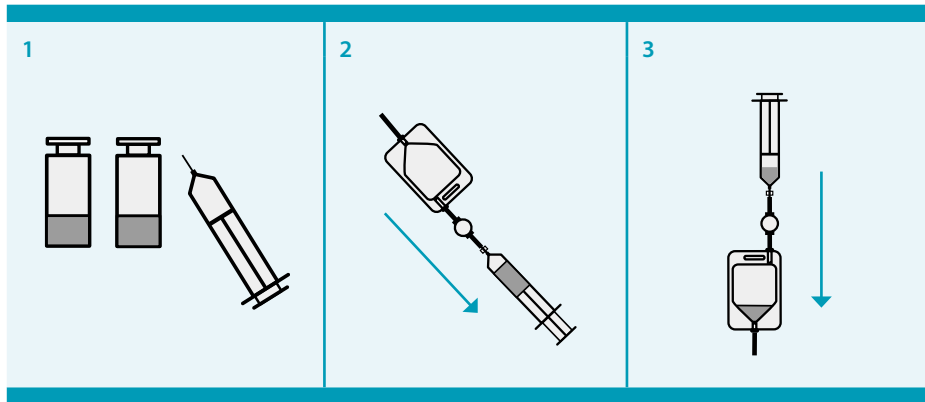

Figure 6.10: Transfer of one or two reagents into the reagent bag of the tubing set
Figure 6.10 illustrates how to transfer the contents from the reagent vial(s) into the related reagent bag. The following preparative steps must be performed subsequently:
1. Remove the plastic cap(s) from the reagent vial(s). Remove the contents of the vial(s) using a suitable Luer Lock syringe equipped with a needle. If two vials of CliniMACS CD34 Reagent are required (large-scale process), combine the contents of the vials in the Luer Lock syringe (see Figure 6.10, part 1). Carefully remove the needle from the syringe.
2. Connect the syringe via Luer Lock connection to the respective reagent bag of the tubing set. Initially, evacuate the air from the bag (see Figure 6.10, part 2).
3. Turn around bag and syringe and transfer the reagent (without air) in one go through the sterile filter into the bag (see Figure 6.10, part 3). Remove the syringe. Attach the reagent bag to the hook on the respective bag hanger. Make sure that the liquid can flow freely.
For details on appropriate reagent transfer and bag positioning, refer to Figure 6.10. and Table 6.2. Note that Bag 3 to Bag 5 are not used for the HSC Enrichment process.
For details on appropriate IgG solution transfer and bag position, refer to Figure 6.10. and Table 6.2.